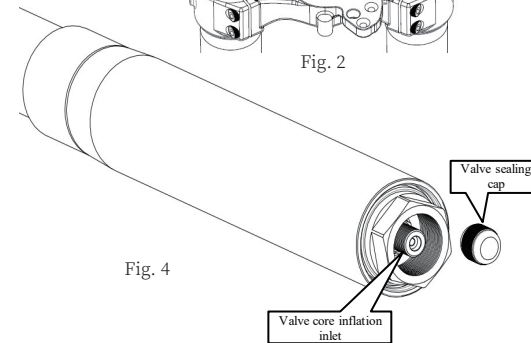

Fig. 4
- B. As shown in Fig. 4, install the valve core inflation device on the bottom of the damper assembly, and use the special shock-absorbing air pump to fill high-pressure nitrogen or air into the air chamber via the valve core.